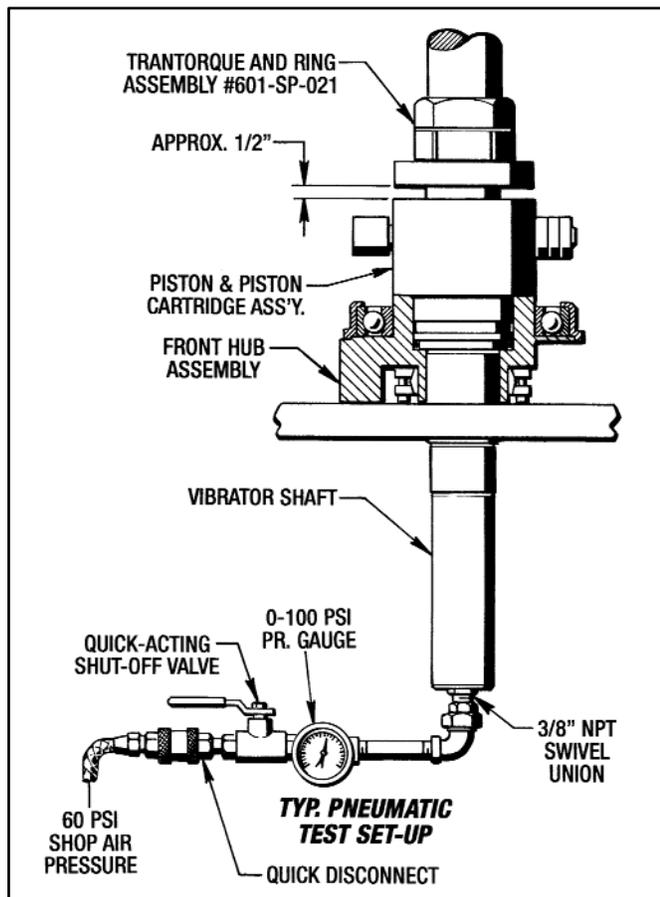

Figure 7.11 - Testing Piston for Leaks
- Slide the **Trantorque and Ring Assembly #601-SP-021** down over the shaft and lock it so it is approx. 1/2" from the rear face of the Piston (#34) as shown in Figure 7.11.
- Attach a Pneumatic Test Set-Up (or similar) as shown in Figure 7.11 to the Rotary Union (#41) and apply 60 to 80 PSI air pressure. The piston will move up to the **Trantorque and Ring Assembly #601-SP-021**. Maintain this air pressure for approx. 30 to 60 seconds. Watch the pressure gauge very closely for any leaks.
In each of the (4) Conditions - **A - B - C** and **D** shown in Figure 7.11, this means that you will add or remove **.004"** of shim thickness from the existing **.040**.